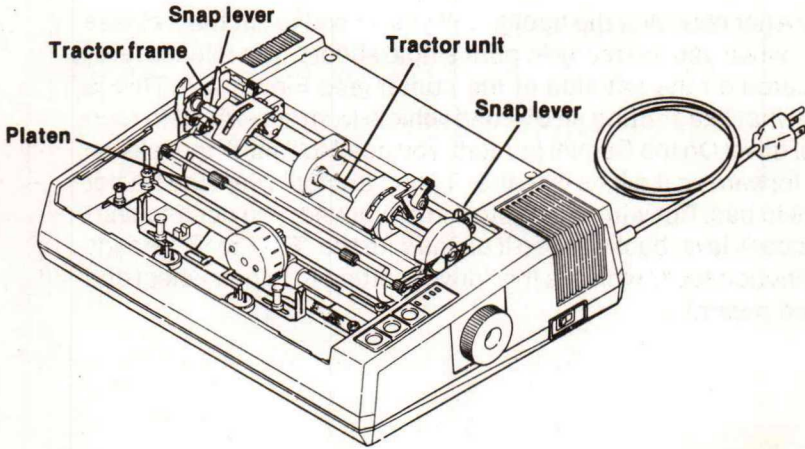
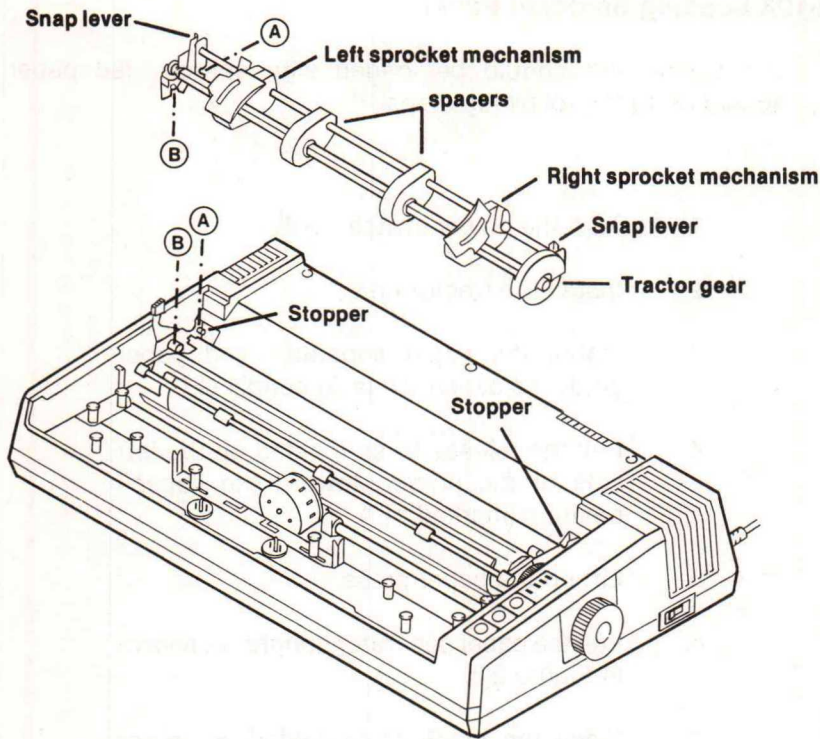

Figure 2-1. The Gemini tractor unit is easy to remove for using single sheets or roll paper.
Figure 2-7. Mounting the tractor unit is a "glide and snap." Glide the unit down until the A's align, then snap the unit down so the B's lock into place.
2. Identify the two "snap levers" by comparing your printer with the Gemini-10X shown in Figure 2-1.
Figures 2-1 and 2-2 showed you how to remove the tractor unit from your Gemini. The tractor unit drives ("feeds") the sprocket paper through the printer. When you want to print onto this type of paper, you must first attach the tractor unit. Figure 2-7 shows you the correct alignment for gliding the unit into position and snapping it into place.
Facing your Gemini, as depicted in Figure 2-7, you see the tractor's driving gear-wheel that is on the right (protected by a "fender," complete with a "fender skirt"). To the left of this part is the right sprocket. On the other side of the spacer(s) is the left sprocket unit. These mechanisms drive the paper through the printer. Each has a hood, secured with a spring. Try lifting the hood, if you want.
2. Install the tractor unit, as illustrated in Figure 2-7 (on page 23).